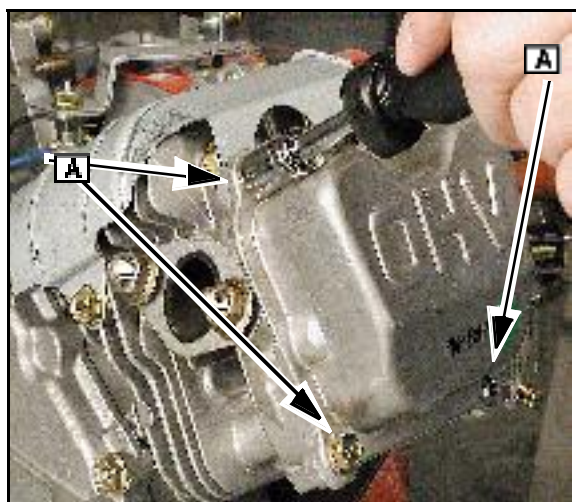

Fig. 22
1. Remove screws (A) from valve cover, Fig. 22.